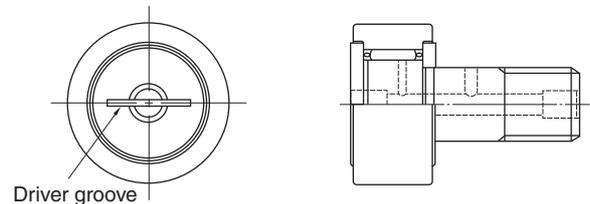

Fig. 1
- 2) The lubrication hole position should be square with driver groove. (refer to Fig. 1)